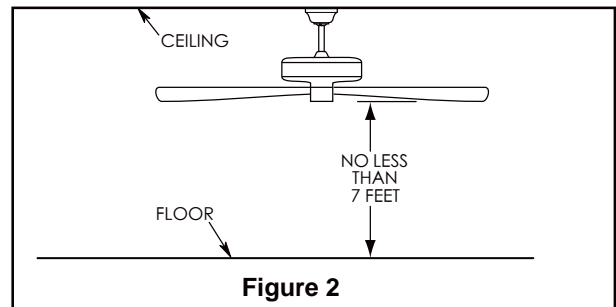

Figure 2
2. Remove the two set screws and locking nuts in the downrod support of the motor assembly and retain for reinstallation in Step 4 of the How to Assemble Your Ceiling Fan section, Page 8. Remove the six screws at the top of the motor assembly and retain them for next step. (Figure 2)
- 2. Remove the hairpin clip and clevis pin from the bottom of the downrod. Retain the pin and clip for reinstallation in Step 4. (Figure 2)
The fan must be hung with at least 7' of clearance from floor to blades. (Figure 2)
To avoid possible electrical shock, be sure electricity is turned off at the main fuse box before wiring (Figure 2).